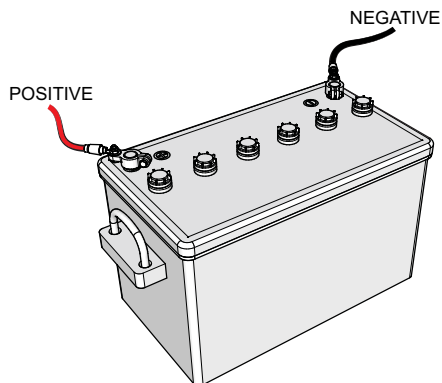

Figure 36. Battery Connections
**ALWAYS** be sure the battery cables are properly connected to the battery terminals (Figure 36). The **red** cable is connected to the positive terminal of the battery, and the **black** cable is connected to the negative terminal of the battery.